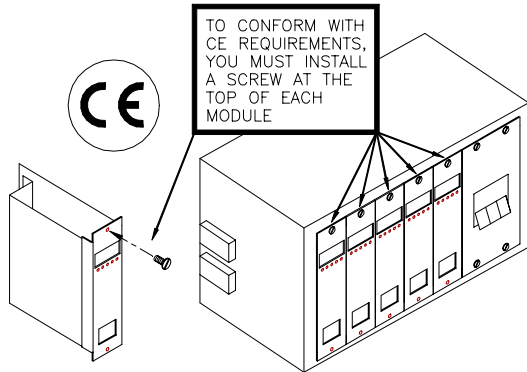

Figure 3 - European Conformity (CE) Requirement
EUROPEAN CONFORMITY (CE) REQUIREMENTS (See figure 3)